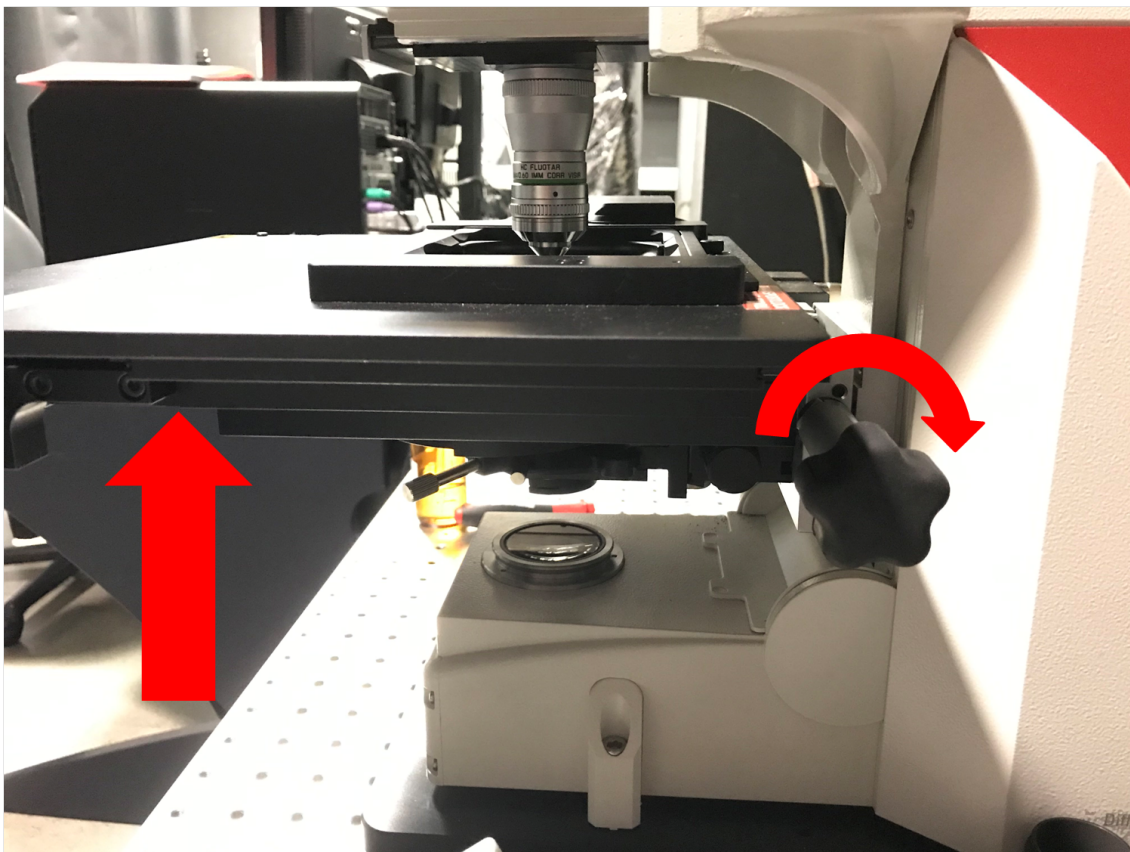

Figure 9
- At this point the stage should be raised to the upper position. Make sure the stage is in the upright position before opening the LAS X software. The stage is properly latched in the upright position when an audible 'click' is heard. See Figure: 9